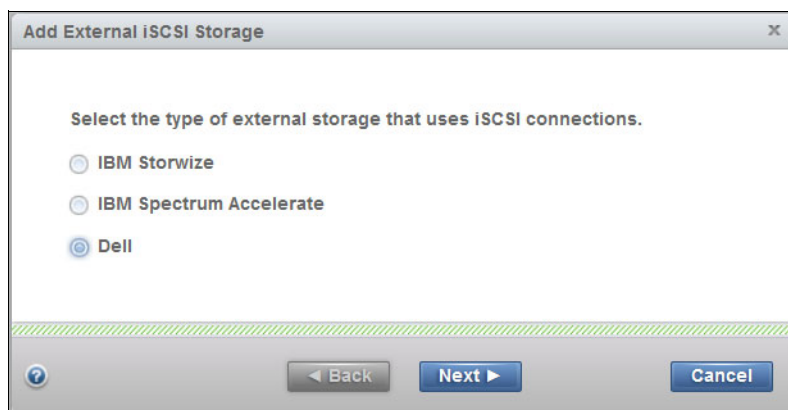

Figure 14-26 GUI dialog box for the selection of the controller type
4. Select **Dell** and click **Next**, as shown in Figure 14-26. This action routes you to the Dell storage configuration wizard.